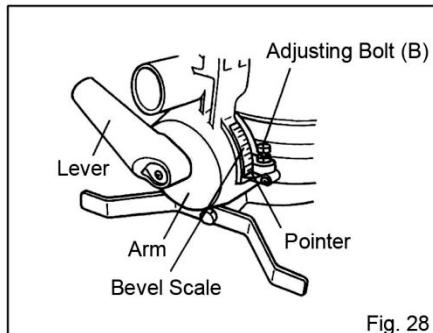

Fig. 28
To adjust left 45° bevel angle, loosen the lever and tilt the blade to the left fully. Make sure that the pointer on the arm points to 45° on the bevel scale on the arm. If the pointer does not point to 45° turn the adjusting bolt (B) on the left side of the arm until the pointer points to 45°. (**Fig. 28**)